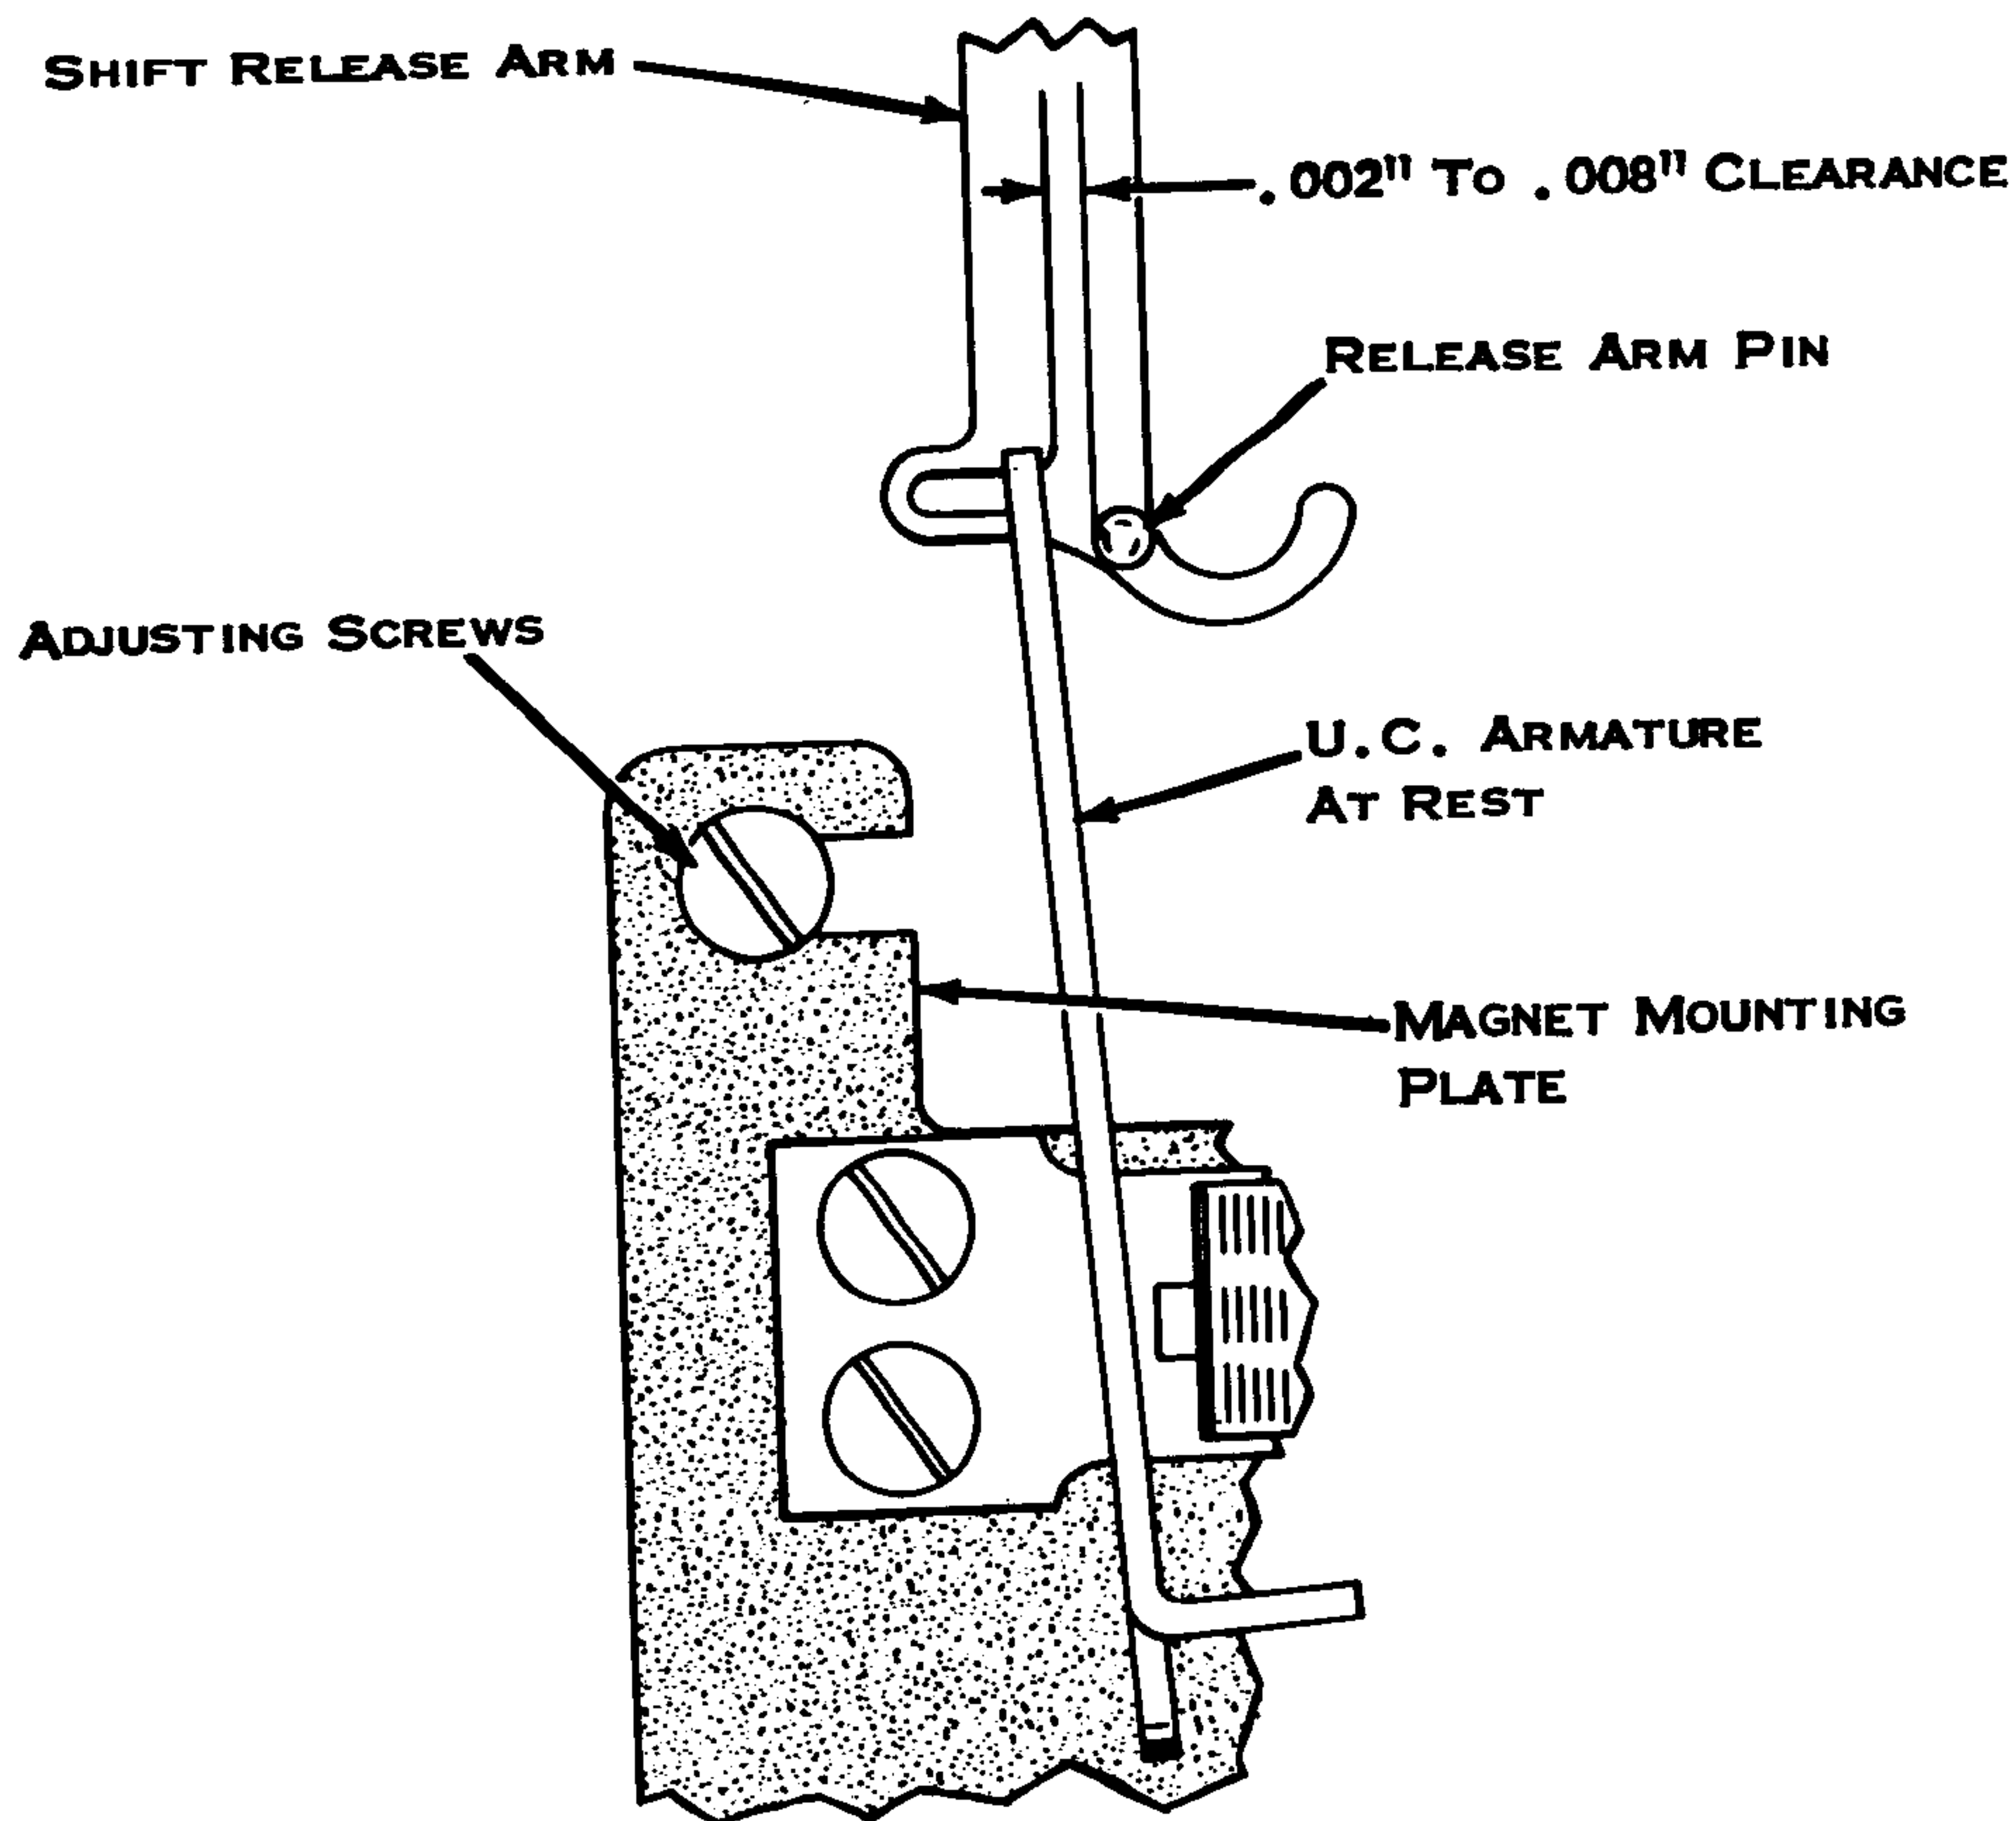

Figure 98. Magnet Assembly Mounting Bracket
- a. 11 Inch Machine (Fig. 98) - Position the magnet assembly mounting plate (front to rear) so that the UC armature (at rest) clears the release arm pin by .002" to .008".